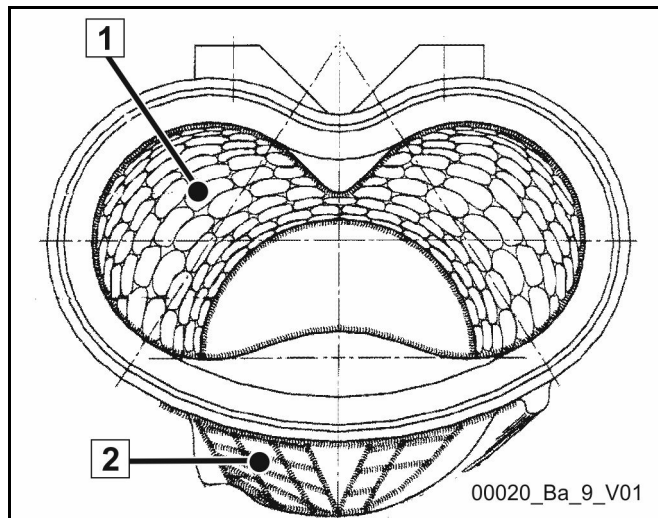

Fig. 340 Armoured swivel head (rock)
- armoured swivel head, see **(Fig. 340)**,
Caption (Fig. 340)